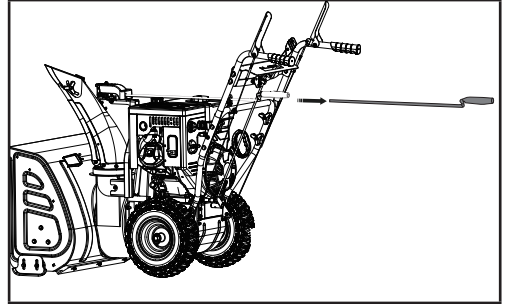

Figure 37
3. Remove the lever from the discharge chute bracket (Fig. 37).